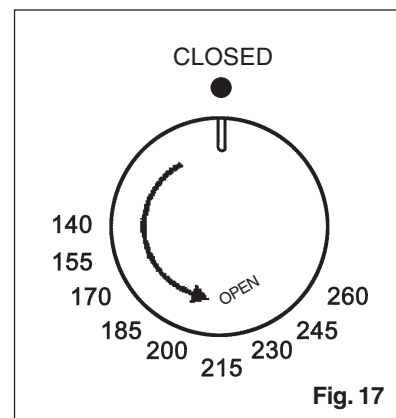

Fig. 17
This makes it possible to select the most suitable temperature for the different requirements of the foods to cook. By turning the knob anticlockwise you can select the temperature as required between the min. (knob trips) and 260°C fig.17
- Lightly press the thermostat knob and turn it anticlockwise onto 260°C (Fig.17)